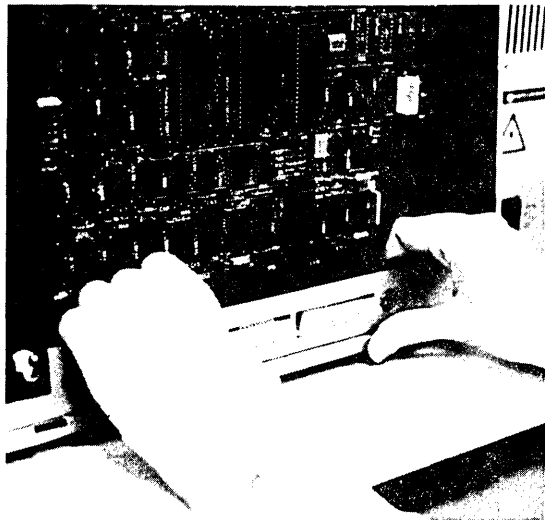

FIGURE 17
2. Brace your thumbs against the lower edge of Lisa and pull hard on the bar that runs just above the row of connectors along the bottom of the card cage. (See Figure 17.)